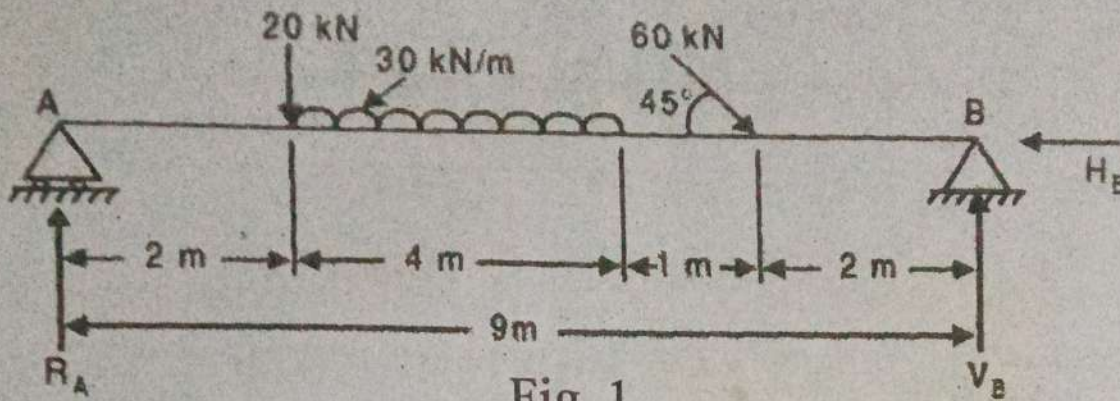

Fig. 1
2. Find the reactions at supports A and B of the loaded beam as shown in Fig. 1.